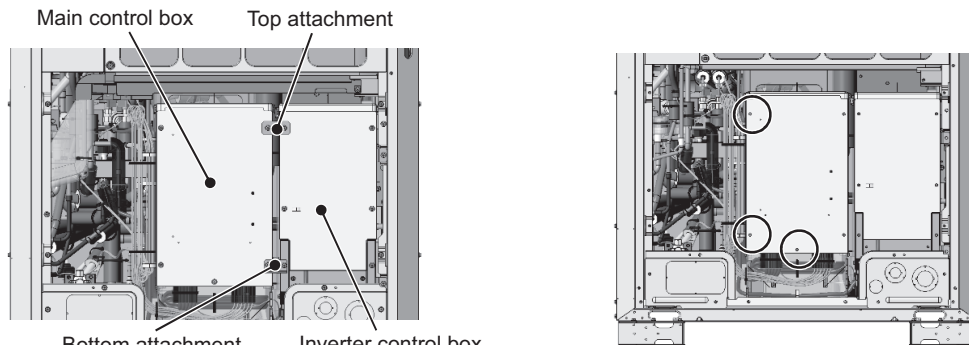

Figure 4 Figure 5
- (4) Remove the top attachment connecting the main control box and the inverter control box by unscrewing the two screws. (See Figure 4.)
- (5) Remove the bottom attachment connecting the main control box and the inverter control box by unscrewing the two screws. (See Figure 4.)